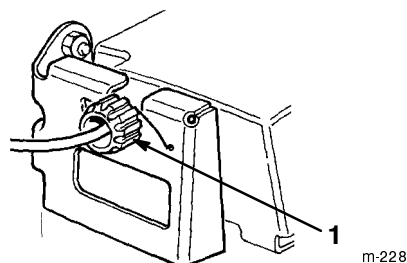

Figure 29
2. Rotate the control knob clockwise 1/2 turn if the lawn mower does not self-propel. If the lawn mower creeps forward, rotate the knob 1/2 turn counterclockwise to loosen the belt (Fig. 29).